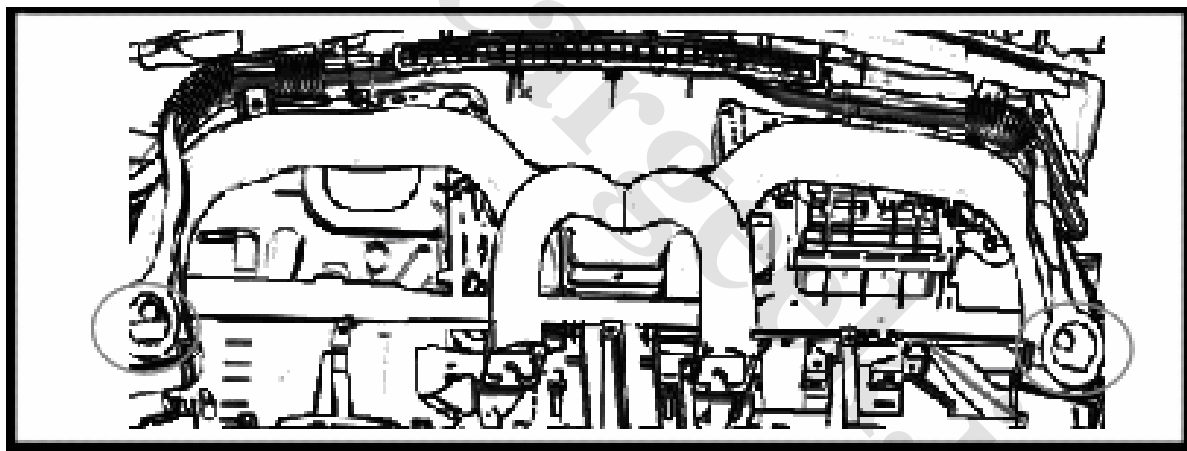

Figure 6-15
- ① Remove the cover board of dashboard (please refer to the disassemble method of dashboard)
- ② Disassemble guard staples of the two sides of the air duct, as shown in Figure 6-15.